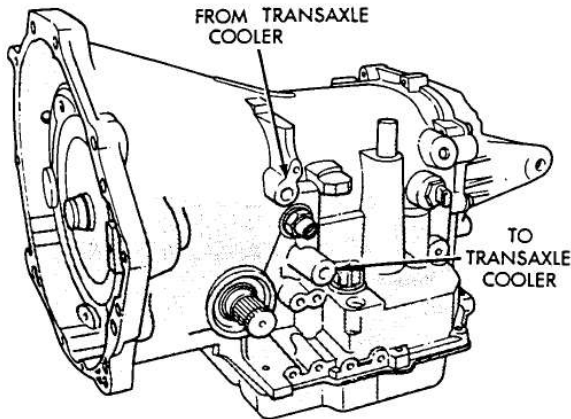

Fig. 8 Cooler Line Identification
- (1) Disconnect the cooler lines at the transaxle.
- (2) Using a hand suction gun filled with mineral spirits, reverse flush the cooler. This is done by forcing mineral spirits into the From Cooler line of the cooler (Fig. 8). Catch the exiting spirits from the To Cooler line. Observe for the presence of debris in the exiting fluid. Continue until fluid exiting is clear and free from debris.